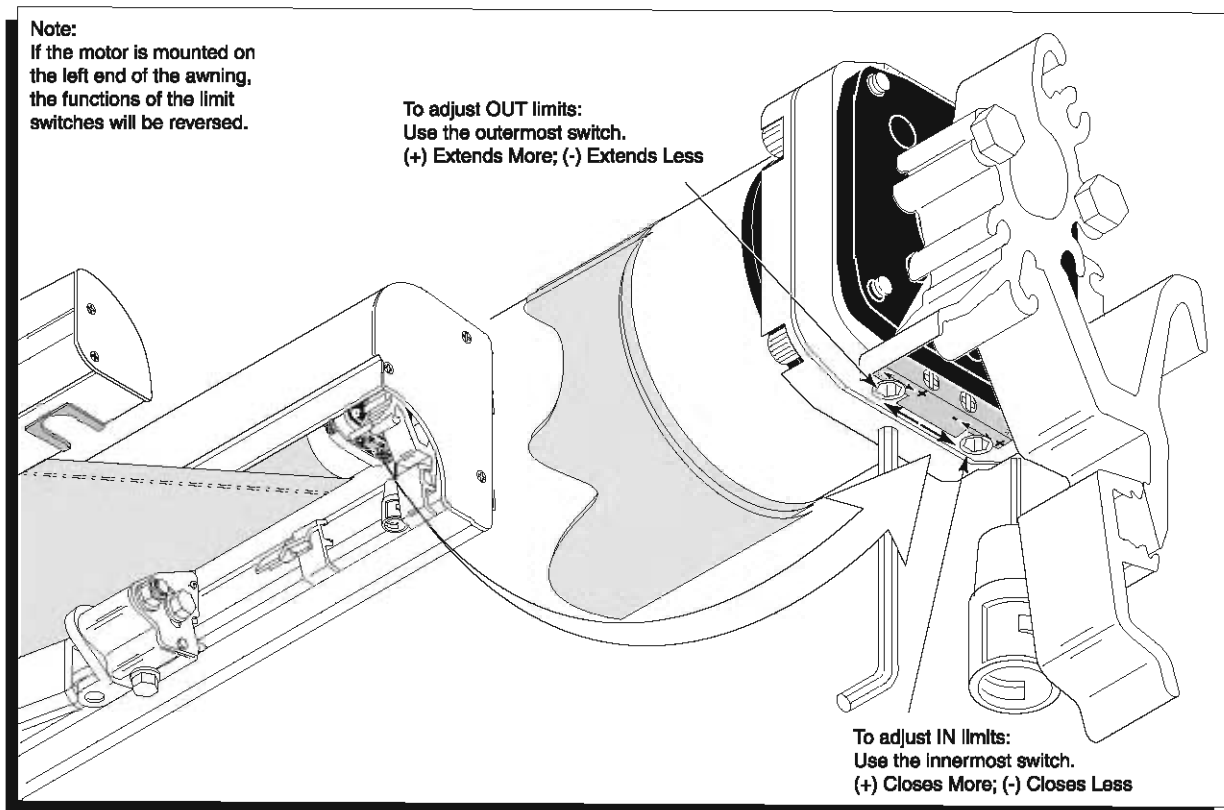

FIGURE 5
4. Adjust limits according to the directional arrows (see Fig. 5 callout). A 1/4 turn represents approximately 1" of awning movement. **Never** set outward limits so that fabric is slack after full arm extension. Adjust limit switches until the motor stops at the **exact** time that the arms lock into position.